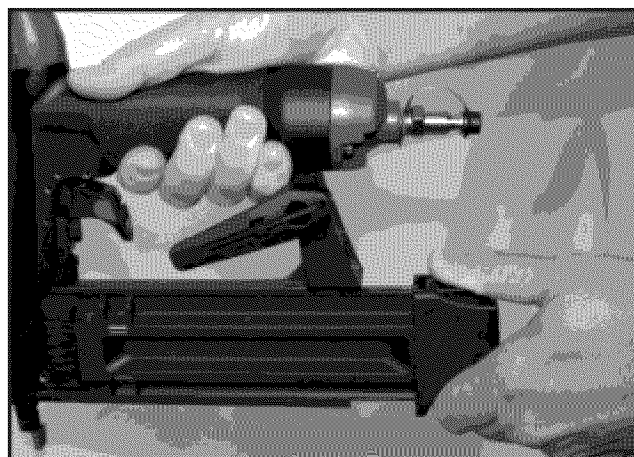

Figure 4—Open Magazine Cover
- Depress the magazine cover release latch and slide the magazine cover open. (See Figure 4)